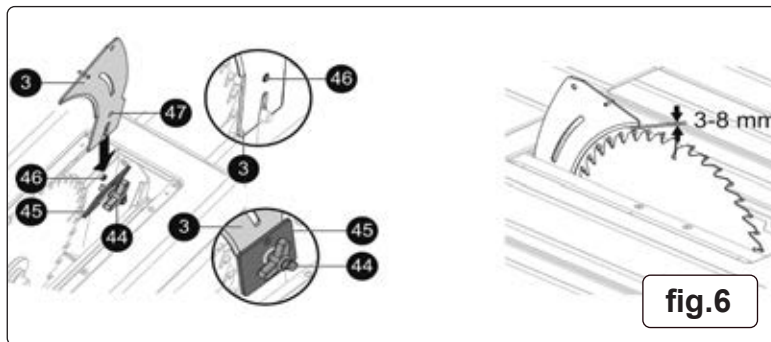

fig.6
- 5.3.7. When re-assembled, the gap between the riven knife and saw blade should be between 3mm and 8mm (fig.6).